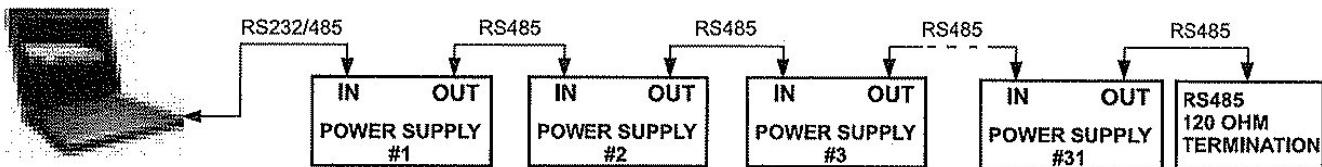

Figure 7-5: Multi-Power Supply RS-232/RS-485 Daisy-Chain Connection
2. **Other unit(s) connection:** The other units on the daisy-chained serial communication bus are connected via their RS-485 interface. Refer to Figure 7-5 for a typical multi-power supply connection.